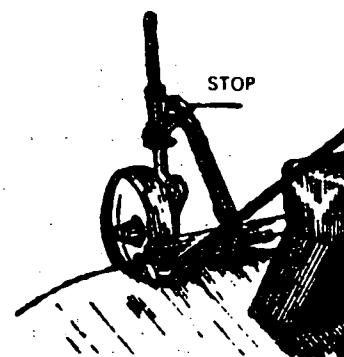

Fig. 1
- c) Adjust the cutting height by actuating the hydraulic system and the rear wheel of the machine (Fig. 1).